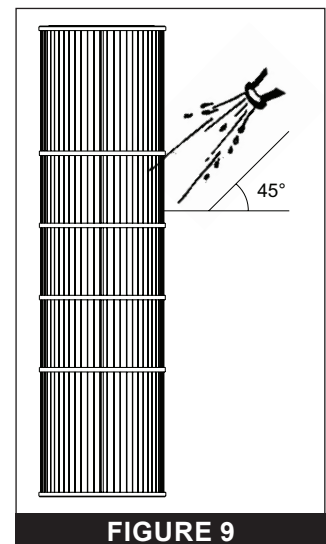

FIGURE 9
6. Using a garden hose with a straight flow nozzle, hold the nozzle at a 45-degree angle to the cartridge and wash the entire cartridge from top to bottom (see **FIGURE 9**).
7. Using a garden hose with a straight flow nozzle, thoroughly wash down the entire filter element. Wash from the top down, holding the nozzle at a 45-degree angle to the cartridge. See **FIGURE 9** on page 8.